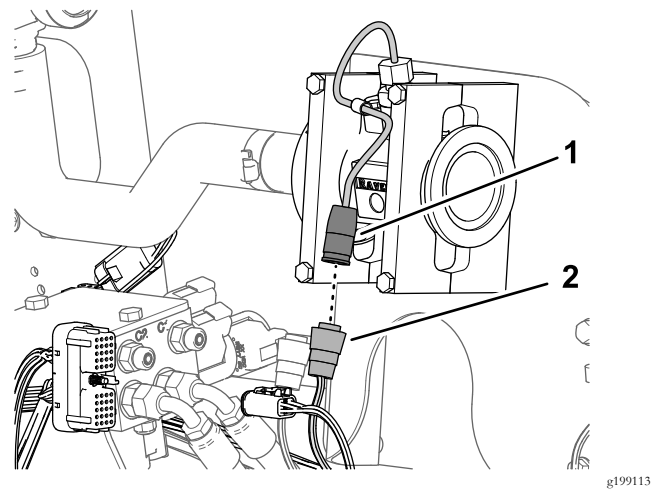

Figure 85
1. Connect the 3-socket electrical connector of the 89 cm (35 inch) wire-harness branch labeled FLOW METER into the 3-pin connector of the flow meter (Figure 85).